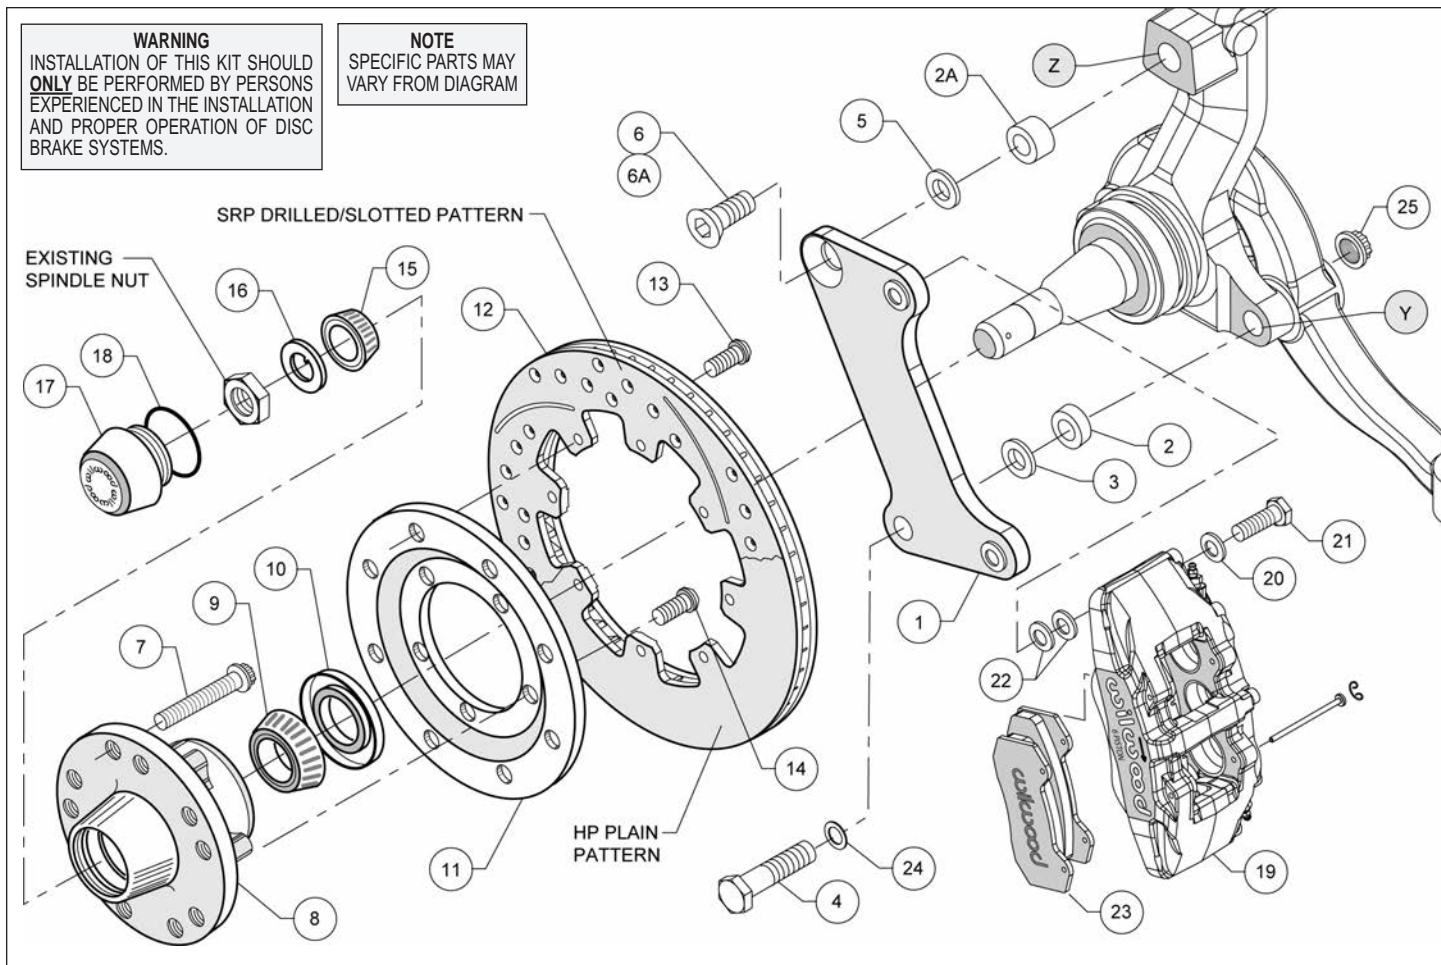
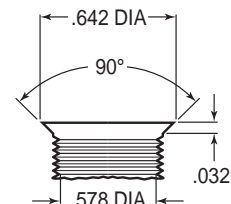
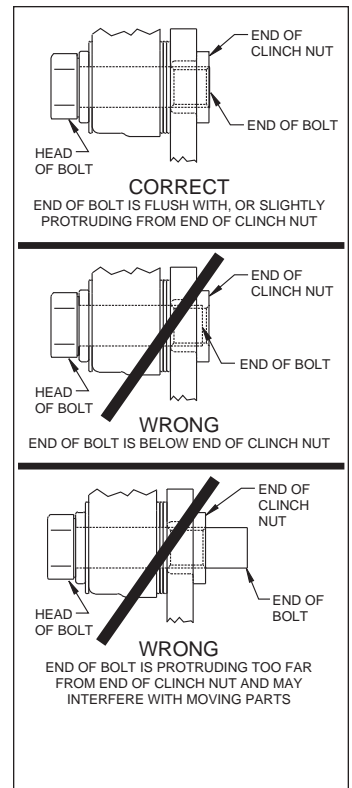

Figure 1. Typical Installation Configuration
Figure 3. Drill and Tap Detail
Figure 4. Clinch Nut Engagement Diagram
Assembly Instructions (numbers in parenthesis refer to the parts list and Figure 1 on the preceding page): **CAUTION:** All mounting bolts must fully engage clinch nuts. Be sure to check that all bolts are either flush or protruding through flanged side of clinch nut after shimming, Figure 4.
- NOTE:** 1964-66 spindles may require the following modifications (reference Figure 1 and Figure 3): Top anchor pin hole (Z) must be drilled and tapped to the dimensions as outlined in Figure 3. Bottom rear steering arm bolt hole (Y) in the spindle and steering arm must be enlarged to .50" by drilling.
- Install wheel studs (7) into the hub (8), Photo 1. Torque to 77 ft-lb. **NOTE:** There are two five lug patterns in the hub (5 x 4.50 and 5 x 4.75). Ensure the correct hub stud pattern is being used to fit the wheel application.
- Pack the large inner bearing cone (9) with high temperature disc brake bearing grease (available from your local auto parts store) and install into the backside of the hub (8), Photo 2.
- Install the grease seal (10) by pressing into the backside of the hub (8), flush with the end of the hub, Photo 2.
- Orient the rotor (12) and the rotor adapter (11) as shown in Figure 1 and Photo 3. Attach the rotor to the adapter using bolts (13). Using an alternating sequence, apply red *Loctite*® 271 to the threads, and torque to 25 ft-lb.
- Mount the adapter/rotor assembly (11/12) to the hub (8) using bolts (14), as shown in Figure 1 and Photo 4. Using an alternating sequence, apply red *Loctite*® 271 to the threads, and torque to 45 ft-lb.
•Attach caliper mounting bracket (1) to spindle face using lower bolt (4), washer (24), and a .090" thick spacer (2) positioned between the bracket and the spindle face, as shown in Figure 1 and Photo 5. Secure bolt on the backside of the steering arm with lock nut (25). Finger tighten. Install upper bolt (6) (for drum spindle) or bolt (6A) with spacer (2A) between bracket and spindle (for disc brake spindle), Photo 6. Ensure that the flanged heads of the clinch nuts in the bracket are facing outboard, Photo 6. Tighten the mounting bolts and temporarily install the new hub/rotor assembly (8/12). Check that the bracket is aligned parallel to the rotor, Photo 7. If not, adjust by adding shim washers (3 and/or 5) between spacers (2 and/or 2A) and the bracket, Figure 1. Once the bracket alignment is correct, remove the upper bolt (6 or 6A), apply red *Loctite*® 271 to bolt threads, and torque to 120 ft-lb. Torque lower lock nut (25) to 65 ft-lb.
•Screw dust cap (17) into hub (8). Friction created by the o-ring (18) on the dust cap keeps it from unscrewing. **NOTE:** *The O.D. of the existing OEM spindle washer may be larger than the I.D. of the dust cap not allowing it to seat against the hub face. Therefore, use the spindle washer (16) supplied with the kit instead of the OEM washer.*
•**NOTE:** *Please reference the caution statement at the beginning of the assembly instructions. This kit contains distinct right and left hand calipers that must be mounted in a specific direction, as described below.* Mount the caliper (19) onto the caliper bracket (1) using bolts (21) and washers (20), as shown in Figure 1. Initially place two .035" thick shims (22) on each bolt between the caliper and the bracket, Photo 9. Ensure that the caliper is mounted so the largest pistons are at the rotor exit end of the caliper, in relation to the direction of rotor rotation. Temporarily tighten the mounting bolts and view the rotor (12) through the top opening of the caliper. The rotor should be centered in the caliper, Photo 10. If not, adjust by adding or subtracting shims (22) between the bracket and the caliper. Always use the same amount of shims on each of the two mounting bolts. **NOTE:** *The end of the bolt must be flush with or slightly protruding from the head of the clinch nut in the bracket.* If necessary, place spare shims between the washer and the caliper mounting ear to achieve the proper clinch nut engagement, as shown in Figure 4. Once the caliper alignment and clinch nut engagement are correct, remove the mounting bolts and caliper.
•Remove the two pad retaining pins from the caliper (19) by carefully popping out the pin retaining clips and sliding out the pins. Insert the brake pads (23) into the caliper from the bottom, Figure 1 and Photo 11, with the friction material facing the rotor. Secure the brake pads in place with the pad retaining pins and clips, Photo 12. Reinstall the caliper onto the caliper mounting bracket. Apply red *Loctite*® 271 to bolt threads (21), and torque to 40 ft-lb.